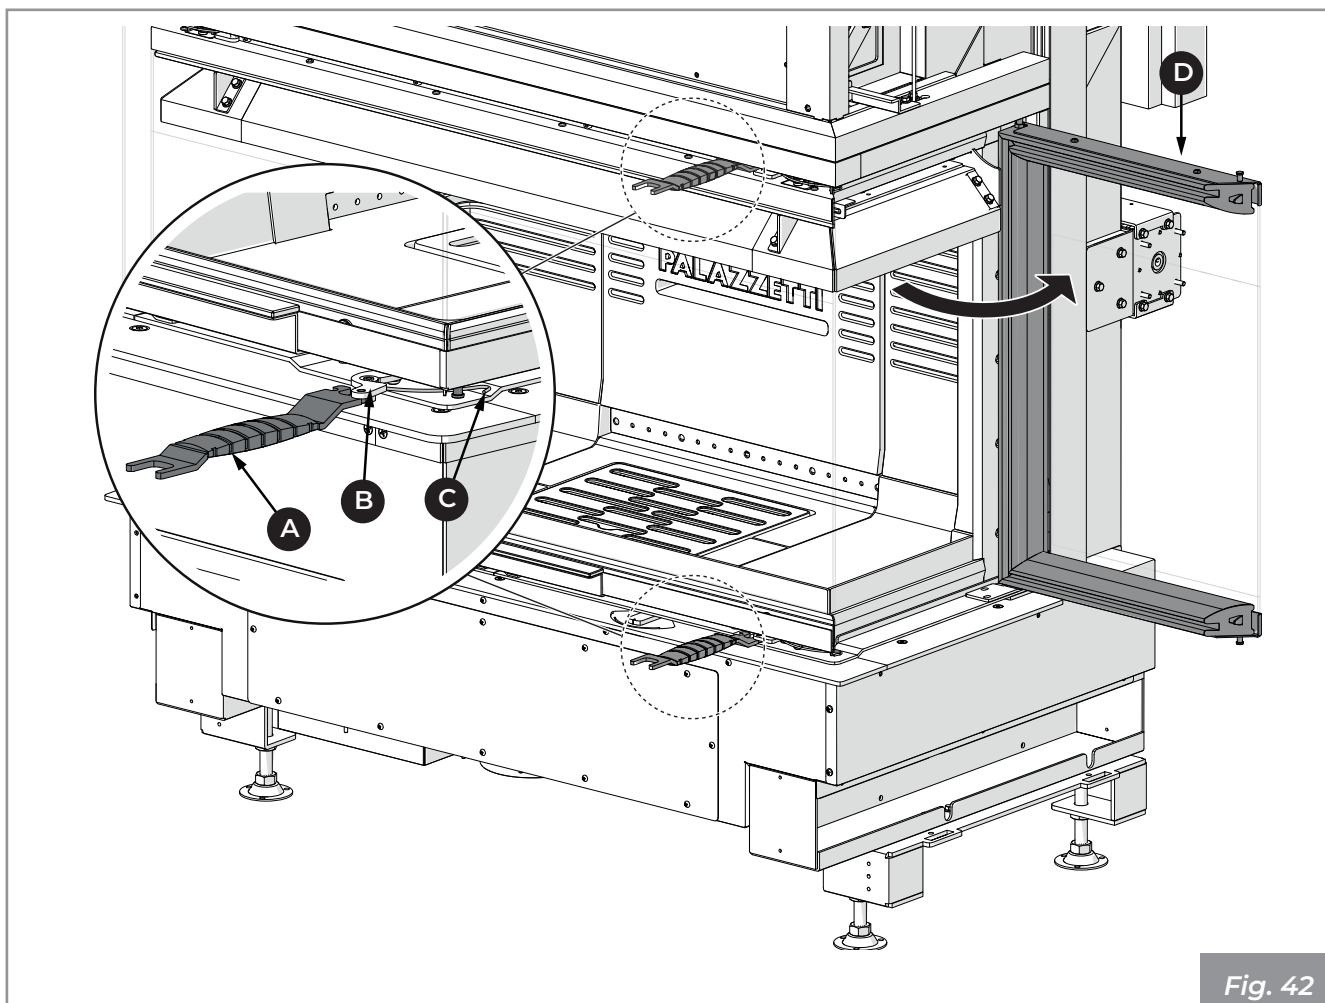

Fig. 42
- 1) Use the cold handle (A) to rotate the lever (B) and to release the hook (C)
- 2) Open the door (D) (Fig. 42).